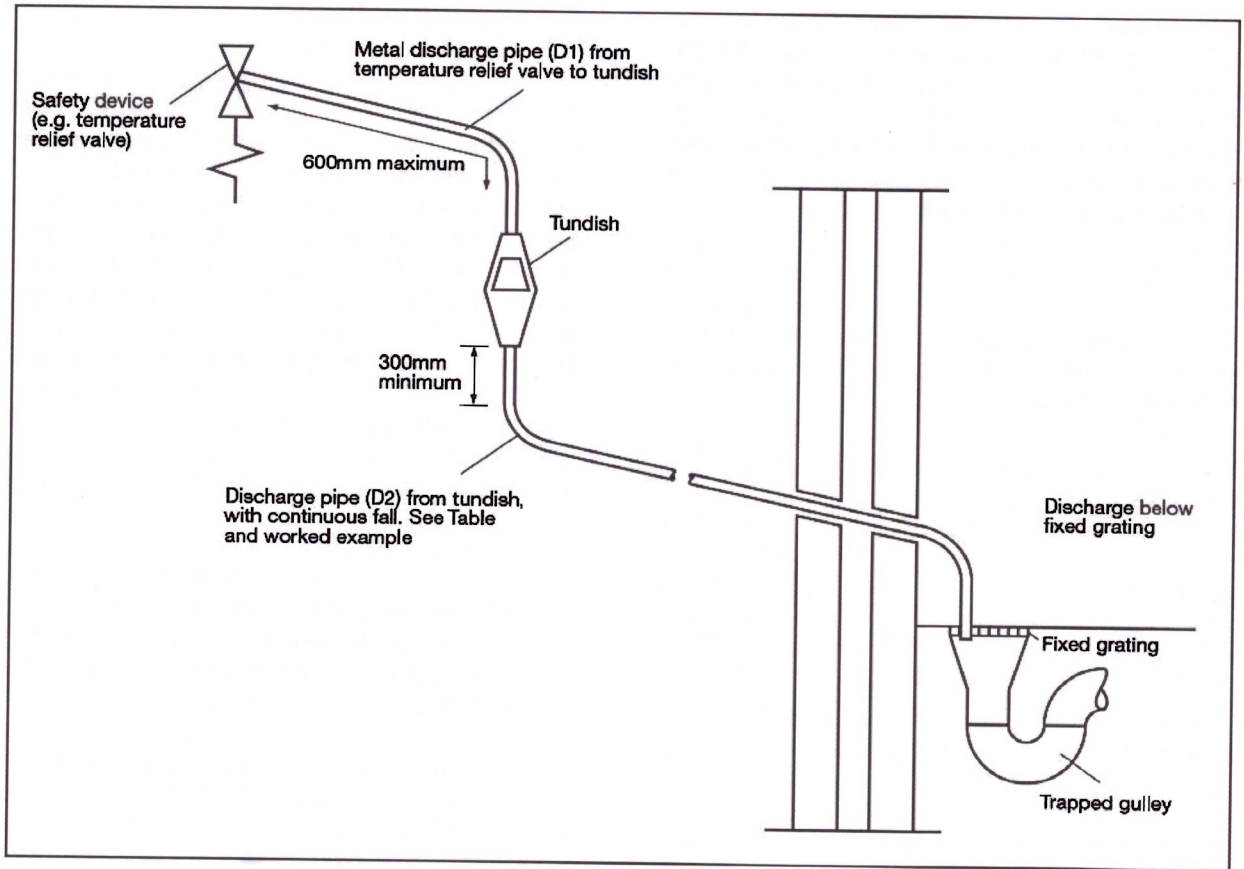

Figure 2: Typical Discharge Pipe Arrangement
The discharge pipe D2 should be at least one pipe size larger than the nominal outlet size of the safety device unless its total equivalent hydraulic resistance exceeds that of a straight pipe 9m long, i.e. For discharge pipes between 9m and 18m the equivalent resistance length should be at least two sizes larger than the nominal outlet size of the safety device; between 18 and 27m at least 3 sizes larger, and so on; bends must be taken into account in calculating the flow resistance. See Figure 2, Table 2 and the worked example.
- The tundish should be vertical, located in the same space as the unvented hot water storage system and be fitted as close as possible to, and lower than, the safety device, with no more than 600mm of pipe between the valve outlet and the tundish (see Figure 2).